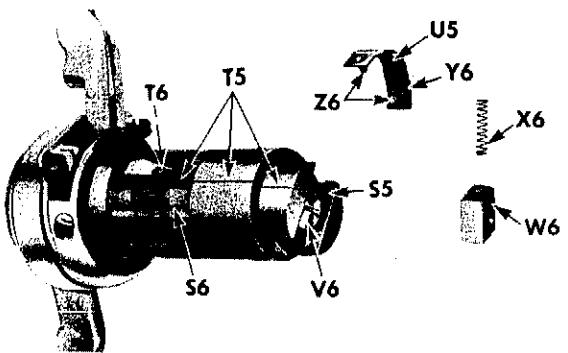
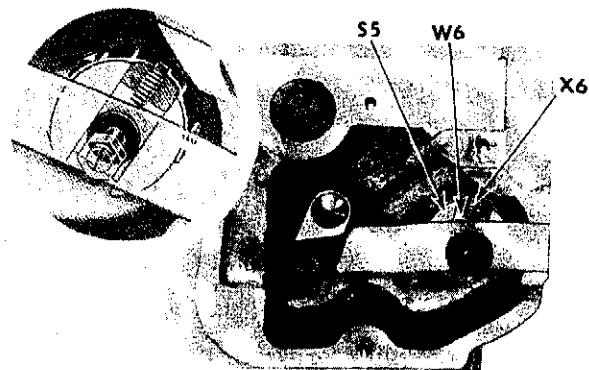

Fig. 247. Aligning Eccentric and Slide with Bearing Sleeve
Fig. 249. Pitman and Regulating Slide Block
**NOTE:** The two bearing surfaces of the slide **S5** and slide block **W6**, Fig. 247 can be easily detected by their brightness and smoothness in comparison with non-bearing surfaces.
Before installing bight control mechanism in machine arm, make certain that the two bearing surfaces of the slide block **W6** will engage the two bearing faces of the bight control slide **S5**, Fig. 249.
Mount the spring retainer plate **Y6**, Fig. 247 on the bight control slide **S5** with two retainer screws **Z6**. Make certain that the spring prong **U5** is toward the open side of the bight control slide **S5**.
By a slight rotary movement toward left or right, engage slide block **W6**, as shown in Fig. 249.
After the slide block **W6**, Fig. 249 is engaged in the bight control mechanism, the spring **X6**, Fig. 249 is inserted into the hole in the slide block; this is done with the aid of a small screwdriver by compressing and positioning over the spring prong **U5**, Fig. 247 on the retainer plate **Y6**, Fig. 247.